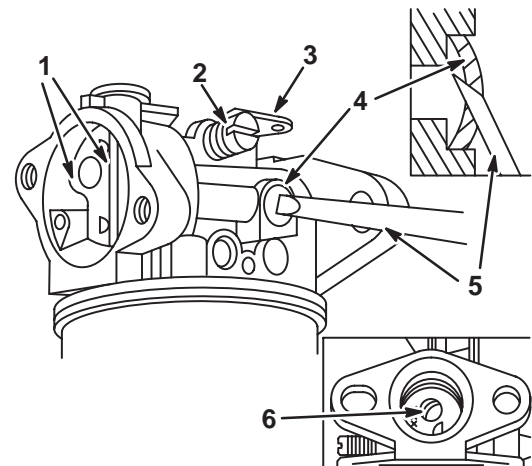

Fig. 25 – Removing Welch Plug
9. With a modified 5/16 inch (3.9mm) pin punch, remove welch plug(s) from carburetor body, Fig. 25.